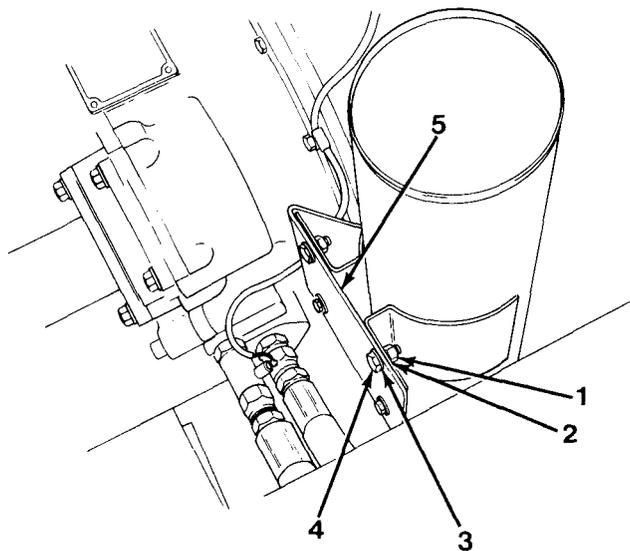

Figure 8-1
2. Remove four nuts (1), lockwashers (2), washers (3) and capscrews (4) from bracket (5, Figure 8-1).